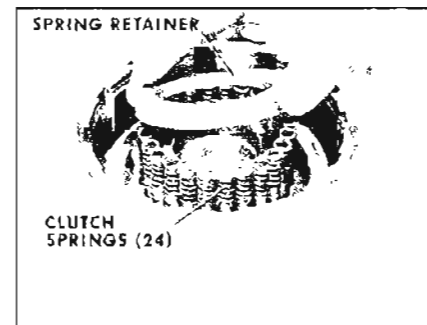

Figure 5-232
6. Carefully reassemble return springs, retainer and snap ring. See Figure 5-232.